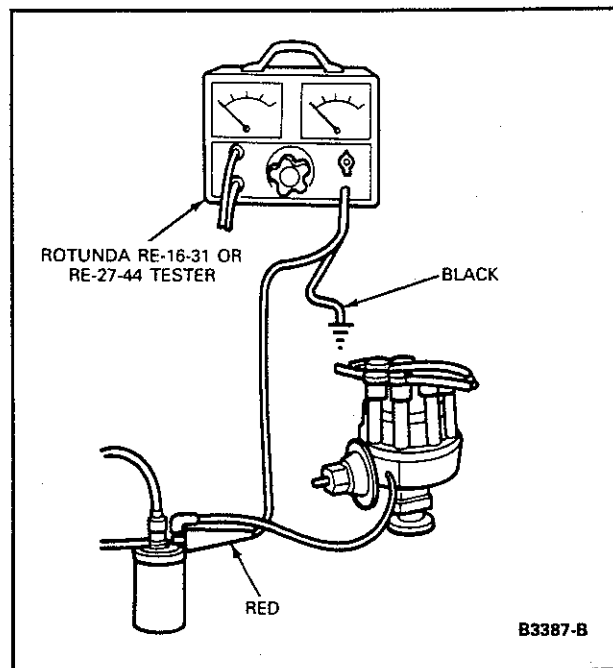

Figure 6 Coil-to-Ground Test
1. Connect the voltmeter leads as shown in Figure 6.